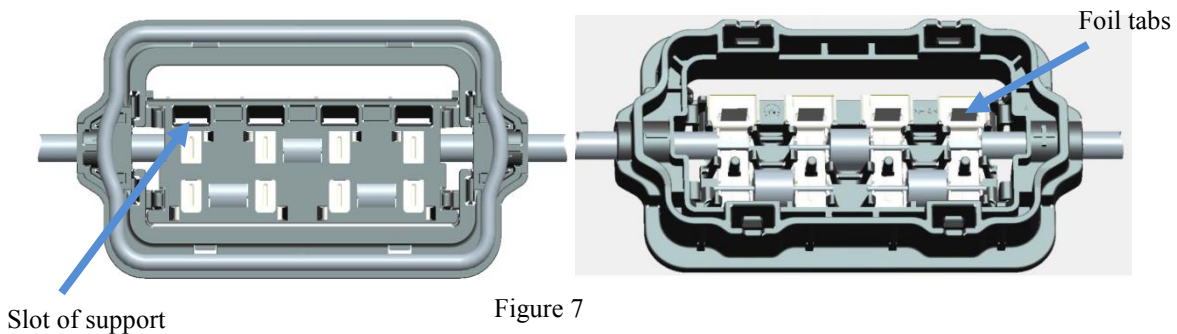

Figure 7
3.3.1.2 Option 2: Make sure the polarities of foil tabs from solar module keep conformity with that of junction box, reference length of the foil tab is 10mm from the conductive contact, the foil tabs go through the slots of support and rails from the bottom, see Figure 7.